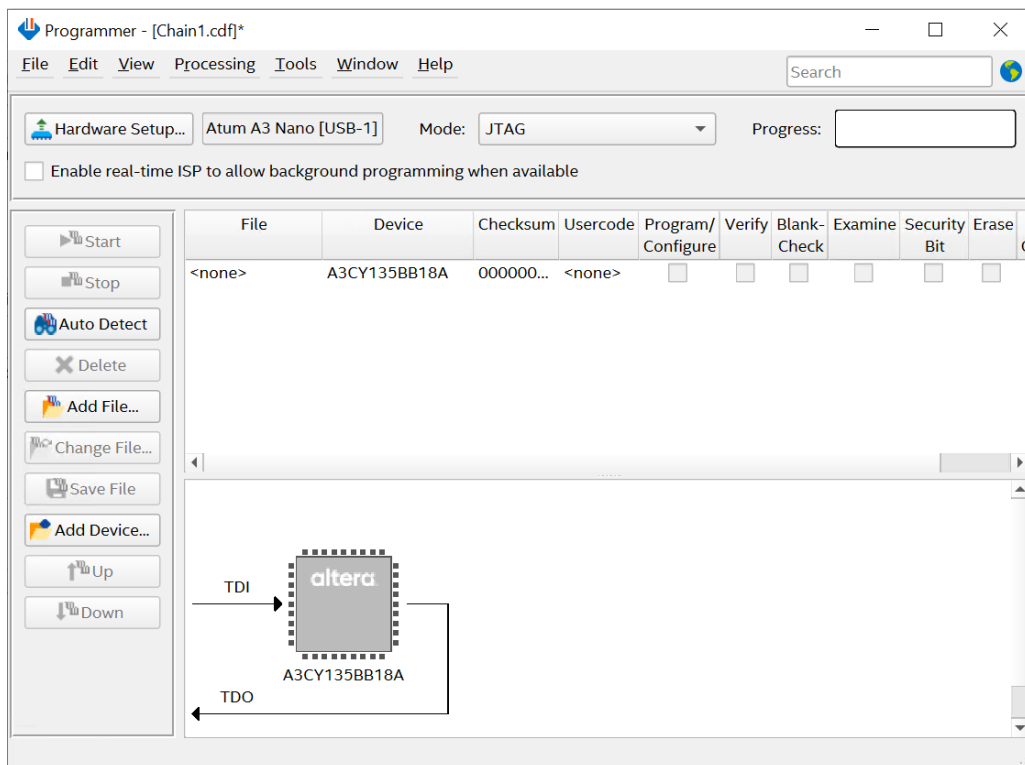

Figure 3-5 FPGA detected in Quartus programmer
4. The Agilex 3 FPGA should be detected, as shown in **Figure 3-5**.